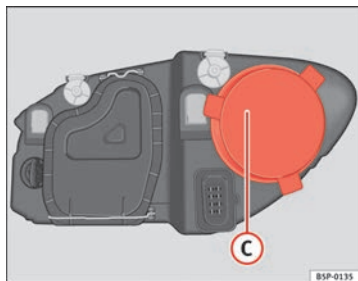

Fig. 187 Main beam headlights
- Remove the cover ⇒ fig. 187 C by pulling on this.